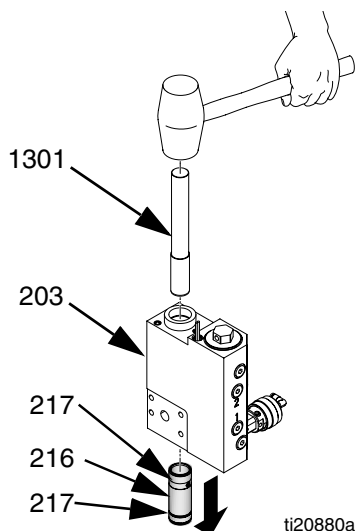

FIG. 37
14. Remove and discard cylinder seals (217). See FIG. 37.
1. Apply grease to seals (217) then install new cylinder seals (217) onto cylinder (216). See FIG. 37.